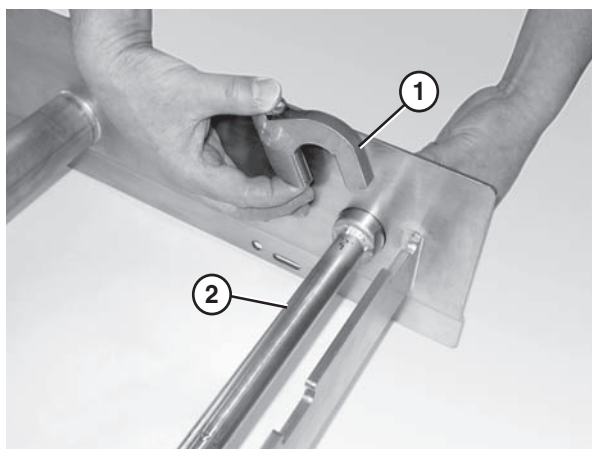

Figure 18
2. Attach the key stops (**Figure 18, item 1**) to the tip up shaft (**Figure 18, item 2**). The rounded end of the key stop should be facing the tail.